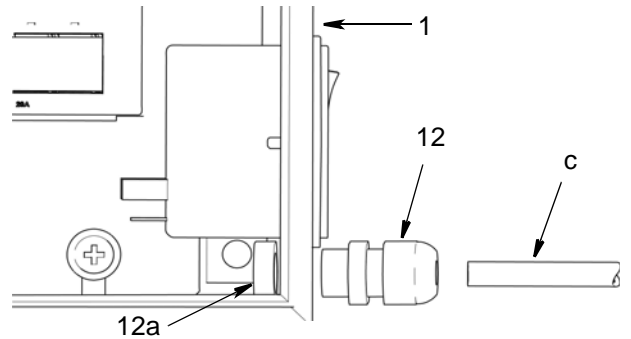

FIG. 4
4. Install cord grip through drilled hole in Enclosure (1). Install lock nut on the inside of the Enclosure, over threaded end of cord grip. Tighten nut securely to hold cord grip in place. Torque nut to 5.9 ft. lbs (8 N.m).
Enclosure (1) as shown in FIG. 4. Tighten compression nut and torque to 5.5 ft. lbs (7.5 N.m).